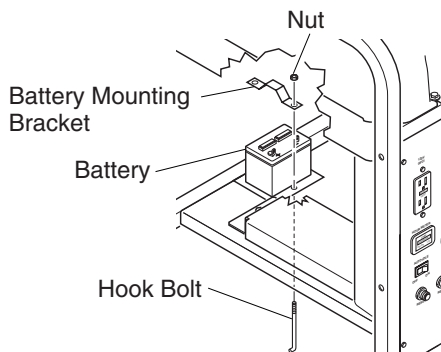

Figure 9 - Battery Hold-Down System (Alternator Removed for Clarity)
1. Secure battery to generator by battery hold-down system. This system consists of the battery mounting bracket, hook bolts, and nut (see Figure 9).